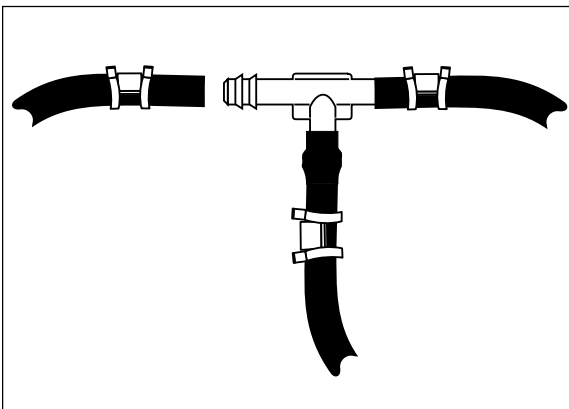

Figure 3
- d. Push the air line over one side of tee until all the barbs are covered. Repeat procedure for other leg of tee (Figure 3).
- e. With pliers slide the air line clamp forward until it fully covers the barbed section. Repeat for other leg of tee (Figure 3).